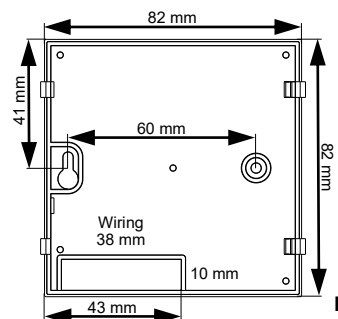

Fig. 4
3. The thermostat is designed for fixed wiring only. Access to the cables is through the back of the mounting plate, as shown in Figure 4.
4. The backplate can be mounted on a flat vertical surface or on a single-gang flush-mounted junction box: the mounting centers are shown in Figure 4.